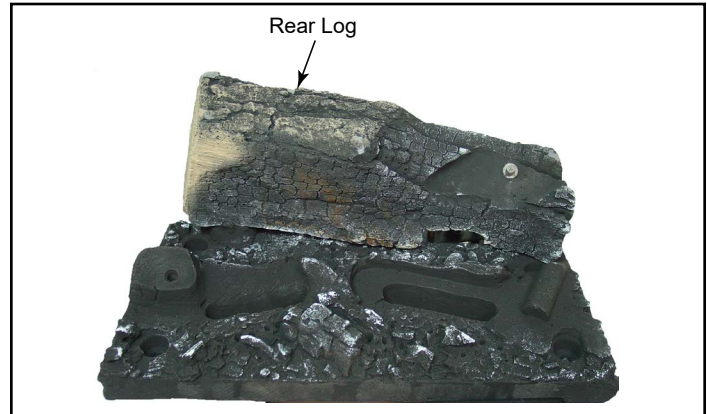

Figure 3.60 - Rear Log
2. Install the rear log by matching the notch on the bottom left of the log on the raised notch on back left side of the ember bed. Cutout on bottom right side is clearance for pilot assembly, Figure 3.60. Gently push right side of log back until it contacts the firebox back, slightly pull forward until seated.